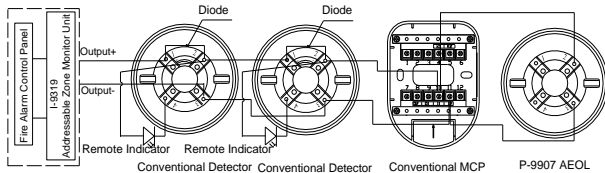

Fig. 5
- 2) When the AEOL is not used as the detector base, a cover should be added, the system connection is shown in Fig. 5.